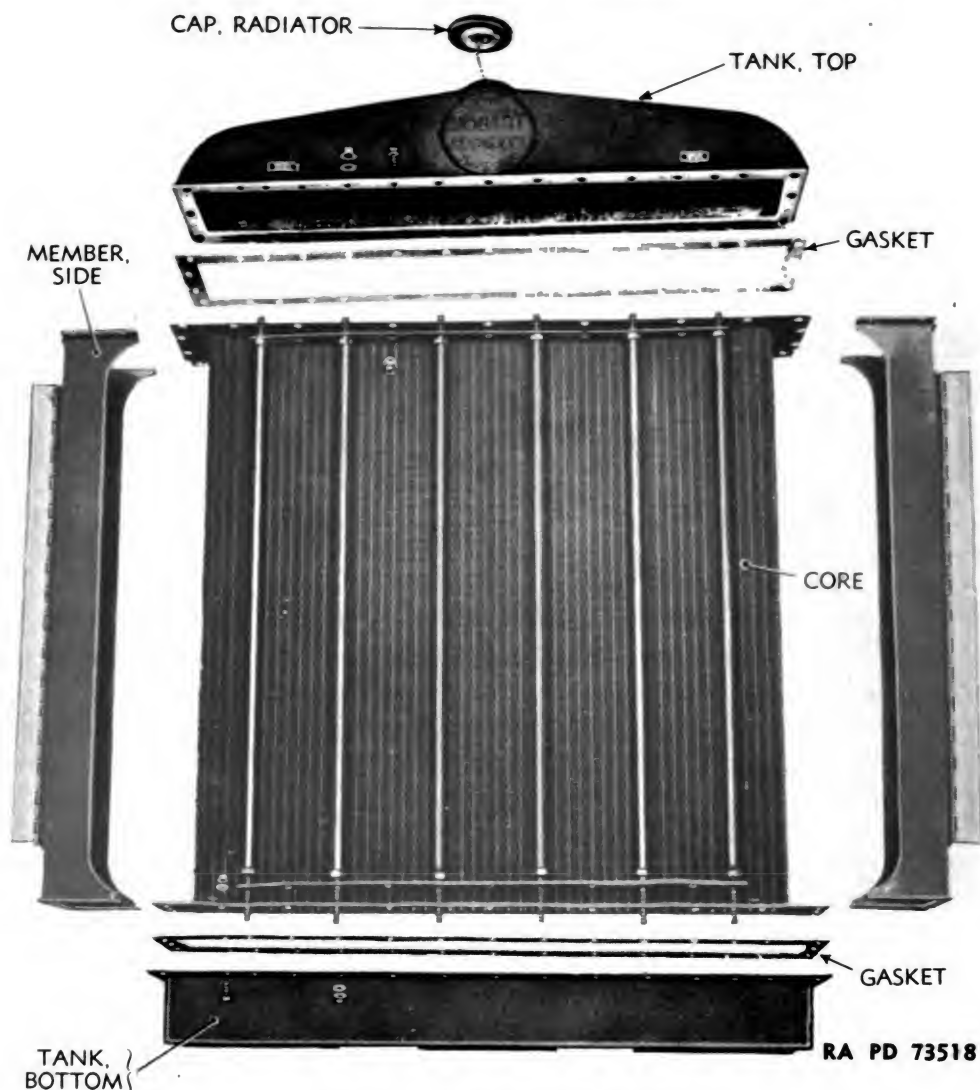

Figure 77 – Radiator Assembly
(1) Take out round-head machine screws and lock washers at back of radiator attaching guard to radiator. Remove guard.
(2) See that radiator filler cap fits down tightly over filler cap hole. If cap is not tight, bend top holding clamp wire to make a better fit.
(3) Visually inspect tanks and core for dents, breaks, or cracks. Weld cracks or breaks. Remove tank dents after disassembly.
(4) Inspect radiator core for leaks. Plug overflow tube, lower tank pipe, and radiator filler opening. Insert an air inlet plug in upper tank opening, and apply 3 pound air pressure in radiator core. Immerse core in tank of water. Mark places where air bubbles out of core. Solder leaks. Repeat inspection, again mark, and solder leaks, if any. **CAUTION:** Not more than 3 pounds air pressure should be used.
d. Disassembly (fig. 77).
(1) Take out cap screws holding radiator outlet and inlet pipe flanges to back of radiator, and remove pipes.
(2) Take out cap screws and nuts holding top tank flange to core flange. Remove nuts holding front radiator rods to radiator top tank flanges. Separate top tank from core, and remove gasket. Make sure copper overflow line from tank is free and clear.
(3) Take out cap screws and nuts holding core flange to bottom tank flange. Remove nuts holding front radiator rods to radiator bottom tank flanges. Remove core and gasket from bottom tank.
e. Assembly (fig. 77).
(1) Install front radiator rods in place between top and bottom core flanges. Set core upon lower radiator tank over a new gasket. Install nuts on ends of radiator rods projecting through lower tank flange. Install cap screws and nuts to clamp tank and core flanges together.